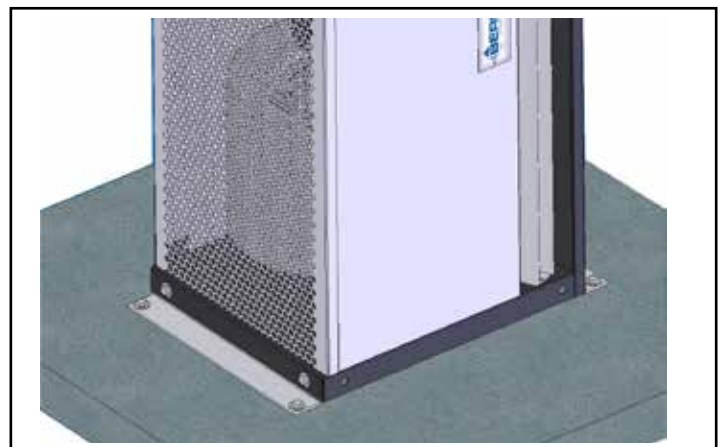

Figure 8 - Floor Mounting
- D. Position the unit vertically in its intended position and anchor it to the floor with a minimum $\frac{3}{8}$ " fastener. **See Figure 8.**